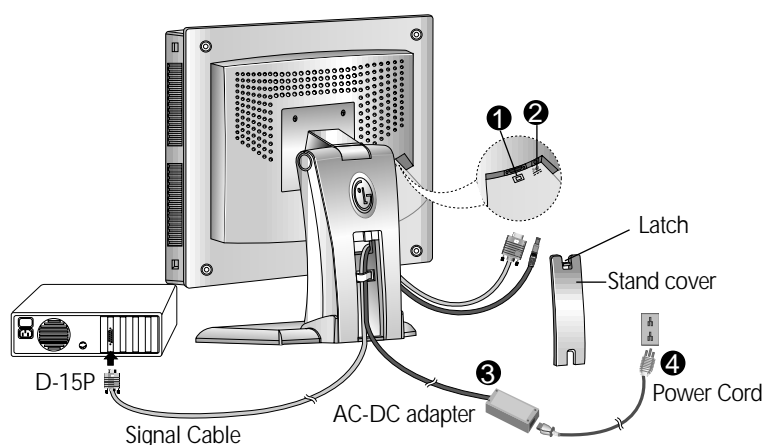

Figure 1.
4. Connect the end of monitor signal cable to the connector ❶ at the rear panel of your monitor through the slot and cable holder on Stand (see Figure 1). Connect the other end to the 15-pin connector on the rear panel of the computer and tighten the screws. Be sure the signal cable aligns with the 15-pin connector.
5. Connect the plug from the AC-DC adapter into the connector on the display unit. ❷ Connect one end of the AC power cord into the AC-DC adapter. ❸ Plug the other end into a properly grounded three-prong AC outlet. ❹
4. Connect the end of monitor signal cable to the connector ❶ at the rear panel of your monitor through the slot and cable holder on Stand (see Figure 1). Connect the other end of the monitor signal cable to the rear panel of Macintosh computer through a Macintosh adapter and then tighten screws.
5. Connect the plug from the AC-DC adapter into the connector on the display unit. ❷ Connect one end of the AC power cord into the AC-DC adapter ❸ Plug the other end into a properly grounded three-prong AC outlet. ❹